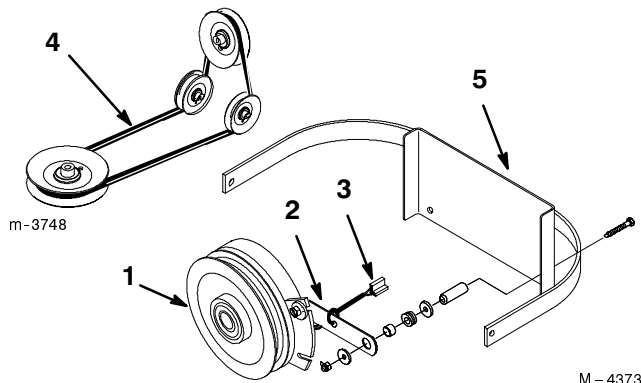

Figure 52
2. Remove the clutch retaining strap from machine frame and unplug clutch terminal from wire harness (Fig. 52).
7. Install clutch retaining strap and plug clutch terminal into main wire harness (Fig. 52).